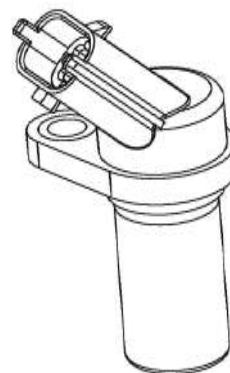

Fig. 6
**Engine speed sensor** : Engine speed sensor is an inductive type sensor. It is mounted on the flywheel housing. Electric pulses are generated when the formed slots on the flywheel pass thro the sensor axis. The Electric pulse - Frequency (Sine Wave) generated by the sensor is proportional to the engine speed. **Fig. 6**